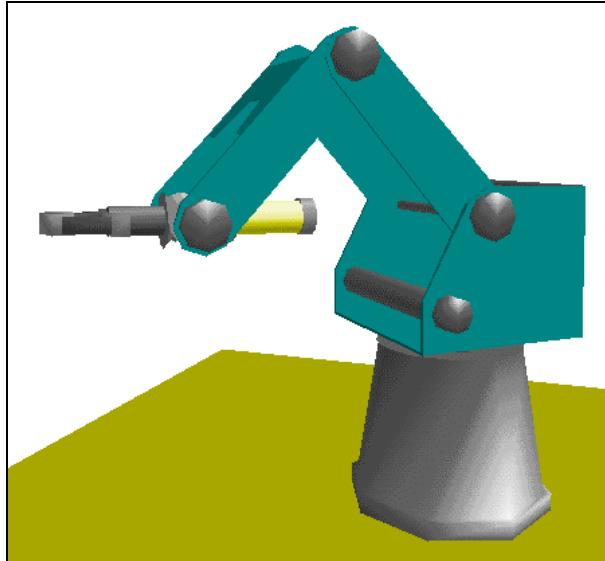

Figure 3-5: Position #4
- 8** Moving only the elbow axis, bring the robot arm to the position shown in Figure 3-5, and record this as position #4.